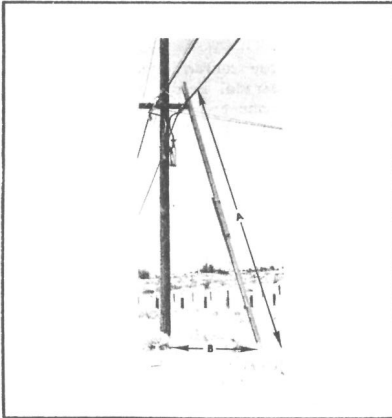

FIGURE 18.
**11.01** Use care in positioning ladders before climbing them. Place the foot of the ladder on the ground or other firm support so that distance A (as shown in Figures 18 and 19) is approximately  $1/4$  of distance B. If distance A is greater than  $1/4$  of distance B, there is danger of imposing excessive